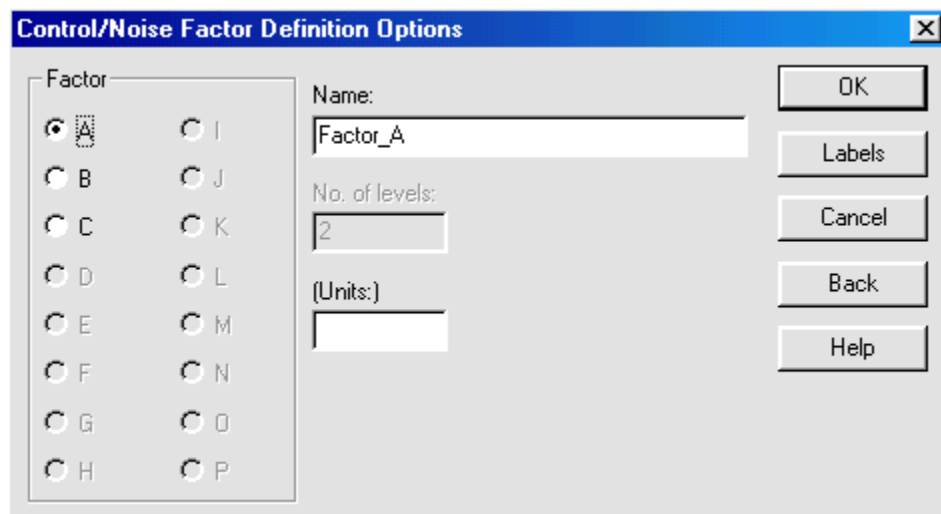

Figure 7-5. Control/Noise Factor Definition Options Dialog Box
9. Click OK to display the Control/Noise Factor Definition Options dialog box shown in Figure 7-5.